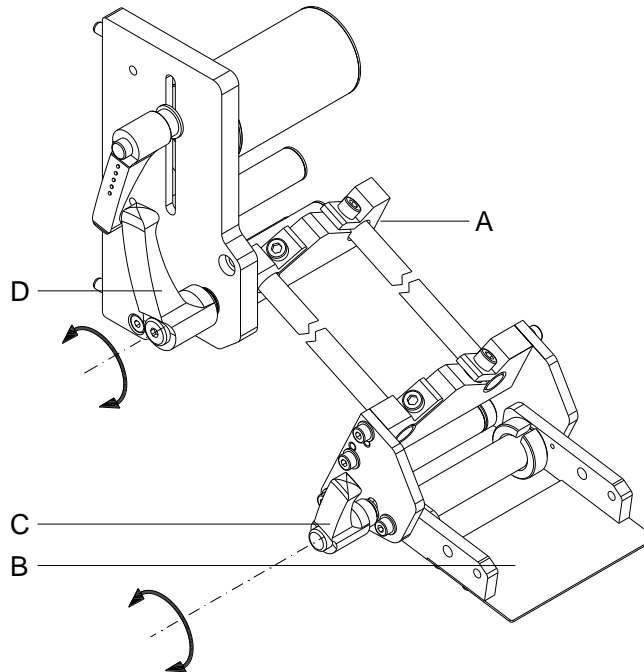

Figure 22
The angle of inclination of the dispensing edge (B, Figure 22, page 35) can be adjusted independently to the angle position (see page 35) by approx. 23 degrees.
1. Move the dispensing rocker (D) forwards/downwards by pulling out the knurled knob (C,).
2. Turn the clamping lever (C, Figure 22, page 35) against clockwise direction to loosen the dispensing edge (B, Figure 22, page 35).
3. Change the angle position of the dispensing edge (B, Figure 22, page 35) as required.
4. Turn the clamping lever (C, Figure 22, page 35) in clockwise direction to fix the position of dispensing edge (B, Figure 22, page 35).
5. Turn the internal retractor (A) of the printing module as long as the backing paper is tightened.
6. Press the dispensing rocker (D) again upwards and engage.